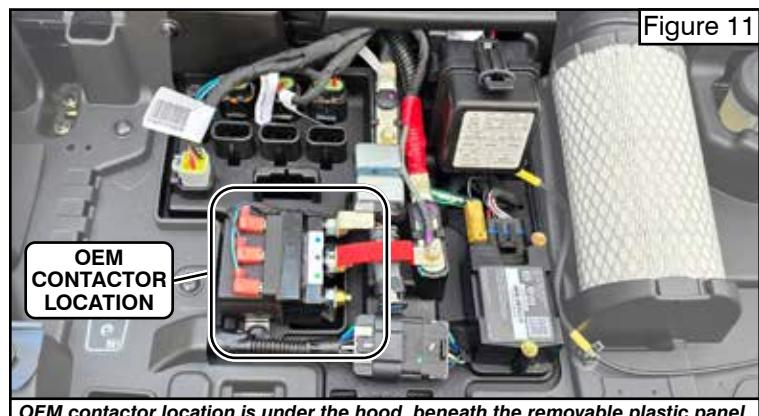

Figure 11
6. Follow the wiring instructions included with the winch. The contactor can be mounted in the OEM contactor location as shown in **Figure 11**.